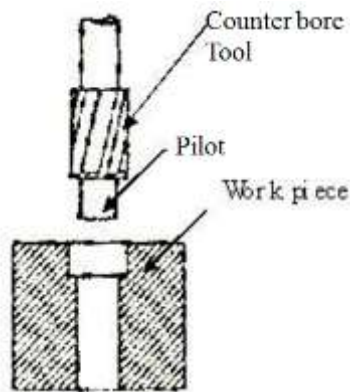

Fig. 7.12: Counterboring Operation
3. Counterboring: Counterboring is to increase the size of a hole at one end only through a small depth as shown in fig. 7.12. The counterboring forms a larger sized recess or a shoulder to the existing hole. The cutting tool will have a small cylindrical projection known as pilot to guide the tool while counterboring. The diameter of the pilot will always be equal to the diameter of the previously drilled hole. The speed for this operation must be two-third of the drilling speed. The counterboring is done on the hole to accommodate the socket head screw, or grooved nuts, or round head bolts.